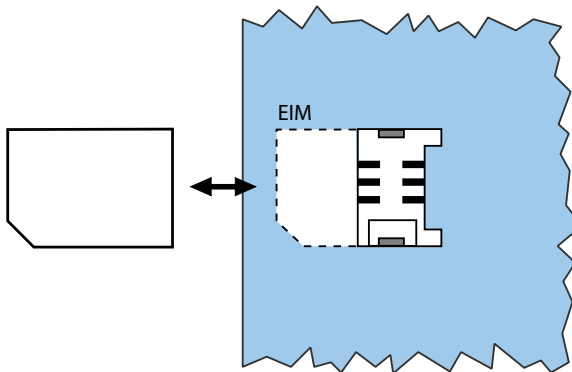

Fig. 74 EIM card
4. Push the new EIM card under the guide tongues and through to the stop in the chip-card holder. Make sure the contacts of the EIM card are facing downwards and the bevelled edge of the EIM card is pointing towards the edge of the mainboard (see Fig. 74).